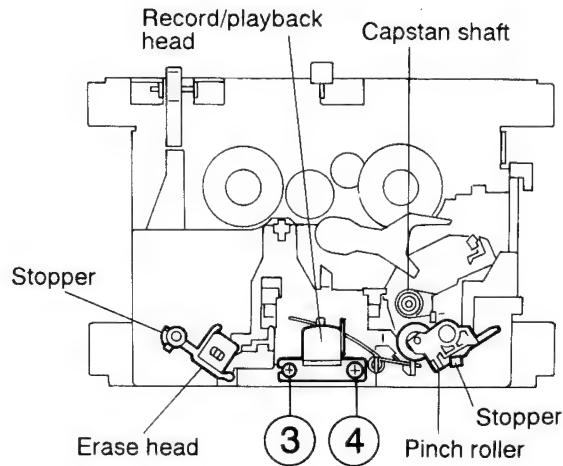

Fig. 5-23
- [Caution]** In case the driver unit elevator is not at the above position, set the elevator to the position as shown in Fig. 5-22a by manually turning the pulley gear as shown in Fig. 5-23.
13. Manually turn the motor pulley in the clockwise direction until the lifter unit stopper is lowered from the section (F) of CD tray assembly (See Fig. 5-23).